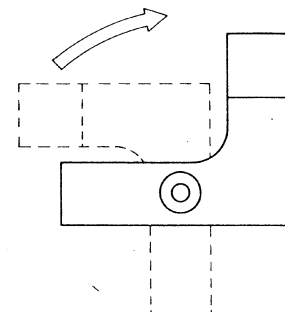

Fig. 22.1
Push the camera in its holder into the mounting device from above, so that the slip-on collimator is opposite the entry tube of the adjustment rig. Press the front plate against the stop bar on the right. Secure the camera by turning the two knurled nuts. Turn the deflecting prism to the right as far as possible (see Fig 22.1).
- 5.3 Rotate the deflecting prism to the left through 90° (see Fig. 22.1).